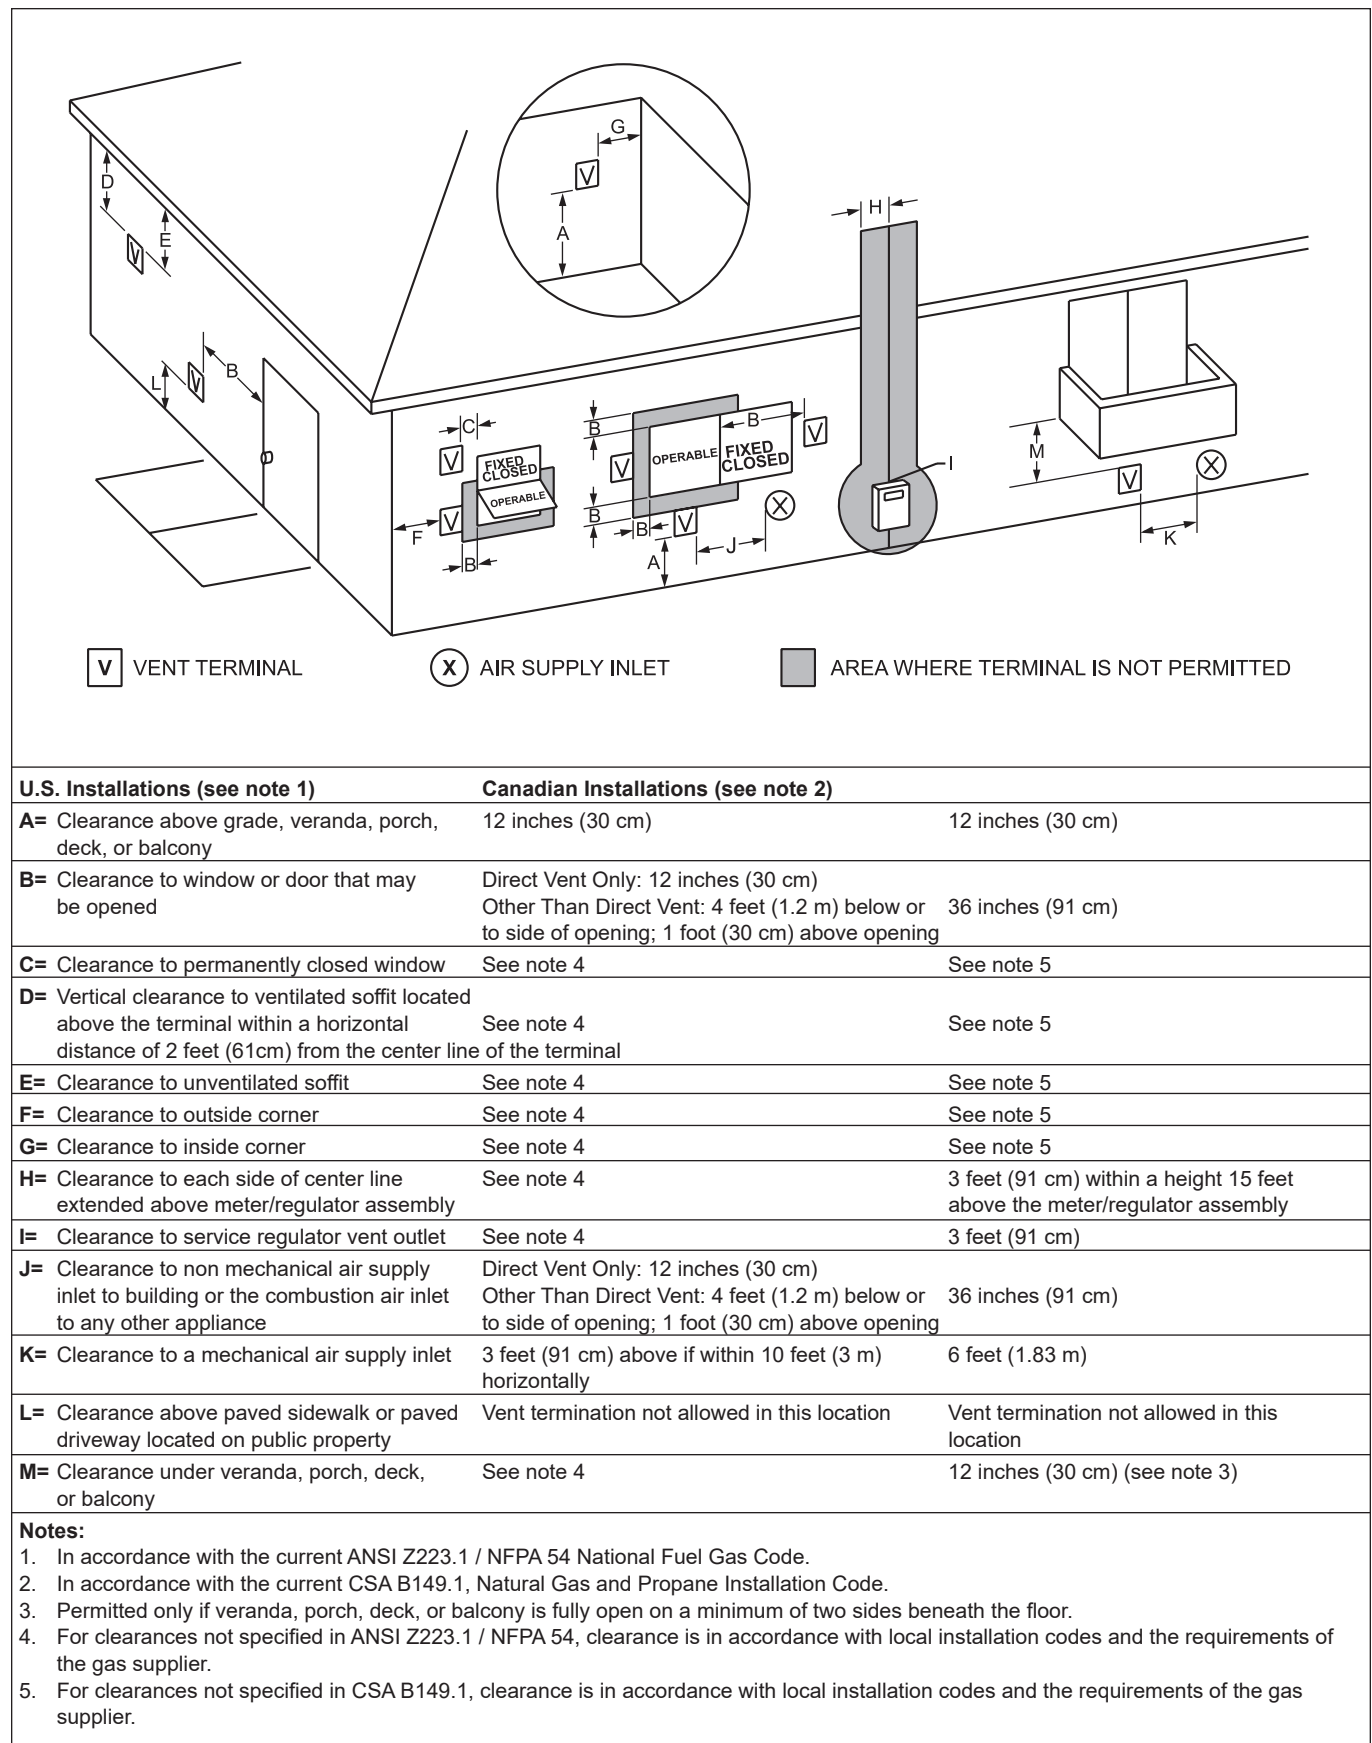

Figure 4. Vent Terminal Clearance.
- Figure 4 shows the requirements for mechanical vent terminal clearances for the U.S. and Canada.
4. If the Brute Deluxe is side-wall vented to the same wall, locate the vent terminal at least 3 feet (0.9m) horizontally from the combustion air terminal, and locate the vent terminal at least 1 foot (0.3m) above the combustion air terminal (see Figure 4).